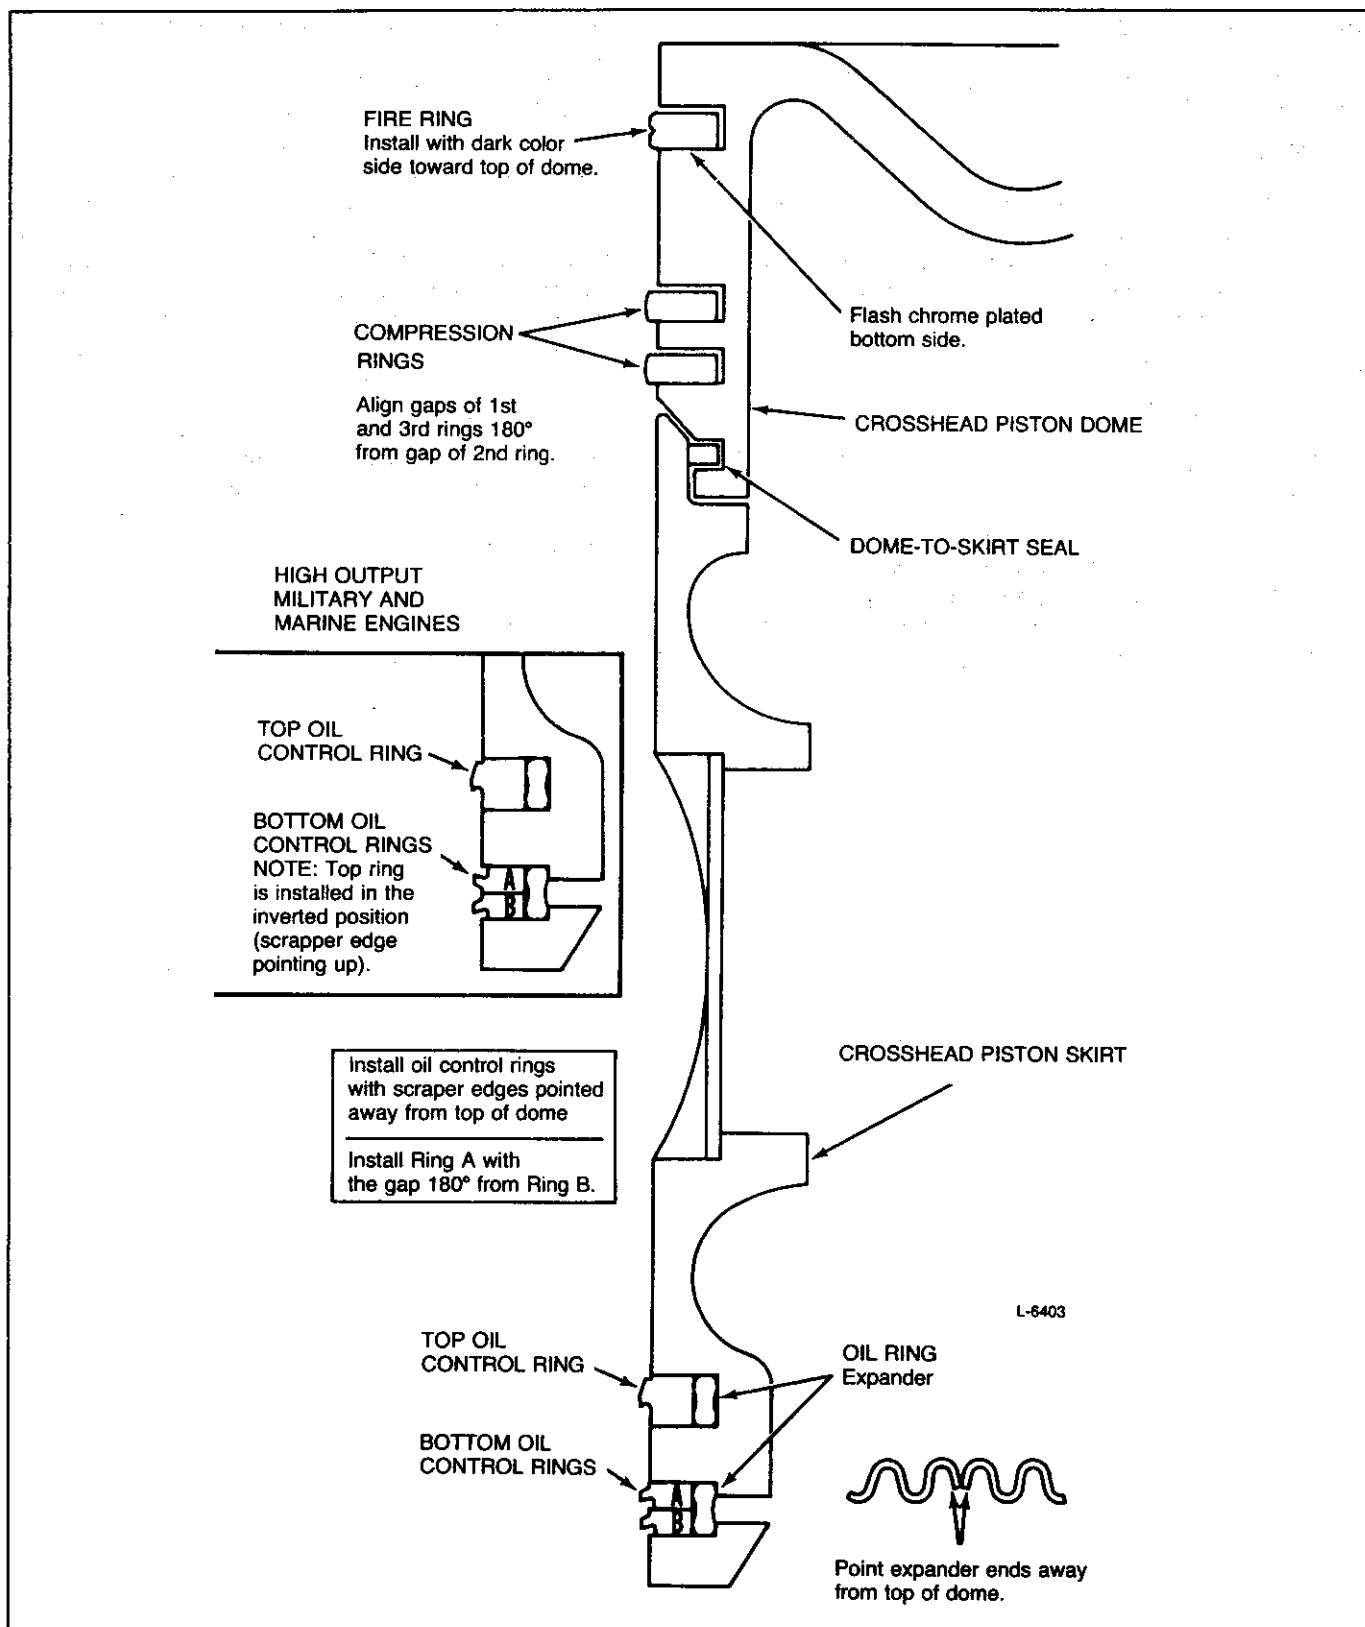

Fig. 22 - Piston Ring Installation Instructions
A one-piece oil control ring in the upper ring groove and a two-piece ring in the lower ring groove are used in the cross-head pistons for *turbocharged* engines (Fig. 22).
1. Starting with the bottom ring, install the compression rings with tool J 8128 (Fig. 13). To avoid breaking or overstressing the rings, do not spread them any more than necessary to slip them over the piston. Refer to Fig. 22 for ring identification and location.
Refer to Fig. 22 for the type and location and install the oil rings as follows:
2. Install the oil control rings by hand. Start with the top oil ring and align the gaps as indicated in Fig. 22. The scraper edges of all oil control rings must face downward (toward the bottom of the piston) for proper oil control, except on high output military and marine engines (Fig. 22).